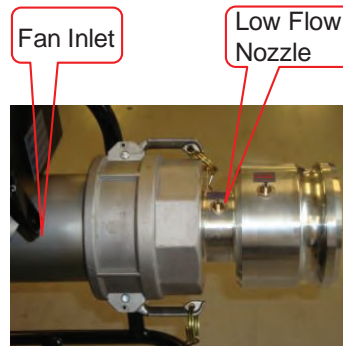

**Figure 6. Positive Pressure, High-Flow Setup**
- a. For positive pressure, high-flow testing, remove the low flow nozzle if it is installed. Then, connect the gray cast-aluminum cam lock connector to the outlet side of the blower per Figure 6. Close both cam lock arms at the same time to ensure proper fit.
- b. For positive pressure, low-flow testing, add the low-flow nozzle to the blower inlet if it is not installed per Figure 7. Then, connect the gray cast-aluminum cam lock connector to the outlet side of the blower per Figure 6. Close both cam lock arms at the same time to ensure proper fit.